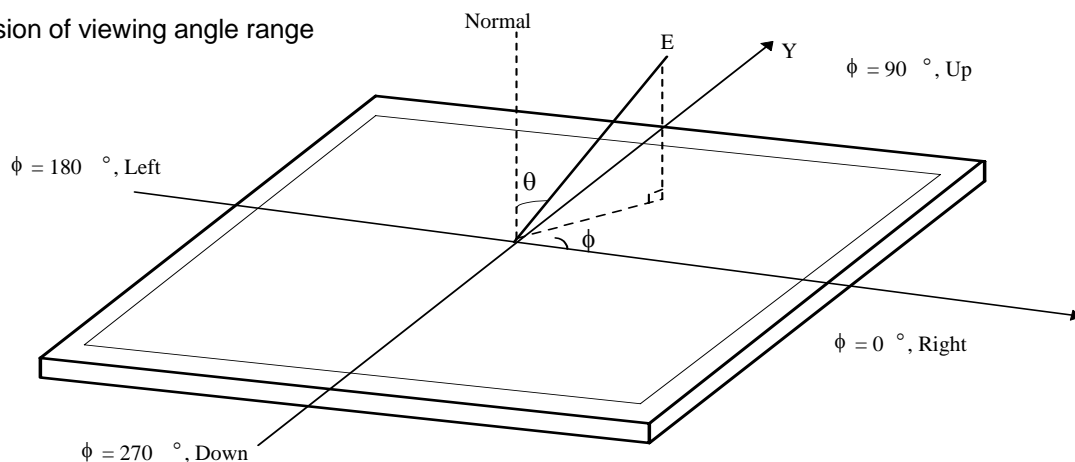

FIG. 4 Viewing Angle
5. Viewing angle is the angle at which the contrast ratio is greater than 10. The angles are determined for the horizontal or x axis and the vertical or y axis with respect to the z axis which is normal to the LCD module surface. For more information, see the FIG. 4& FIG.5